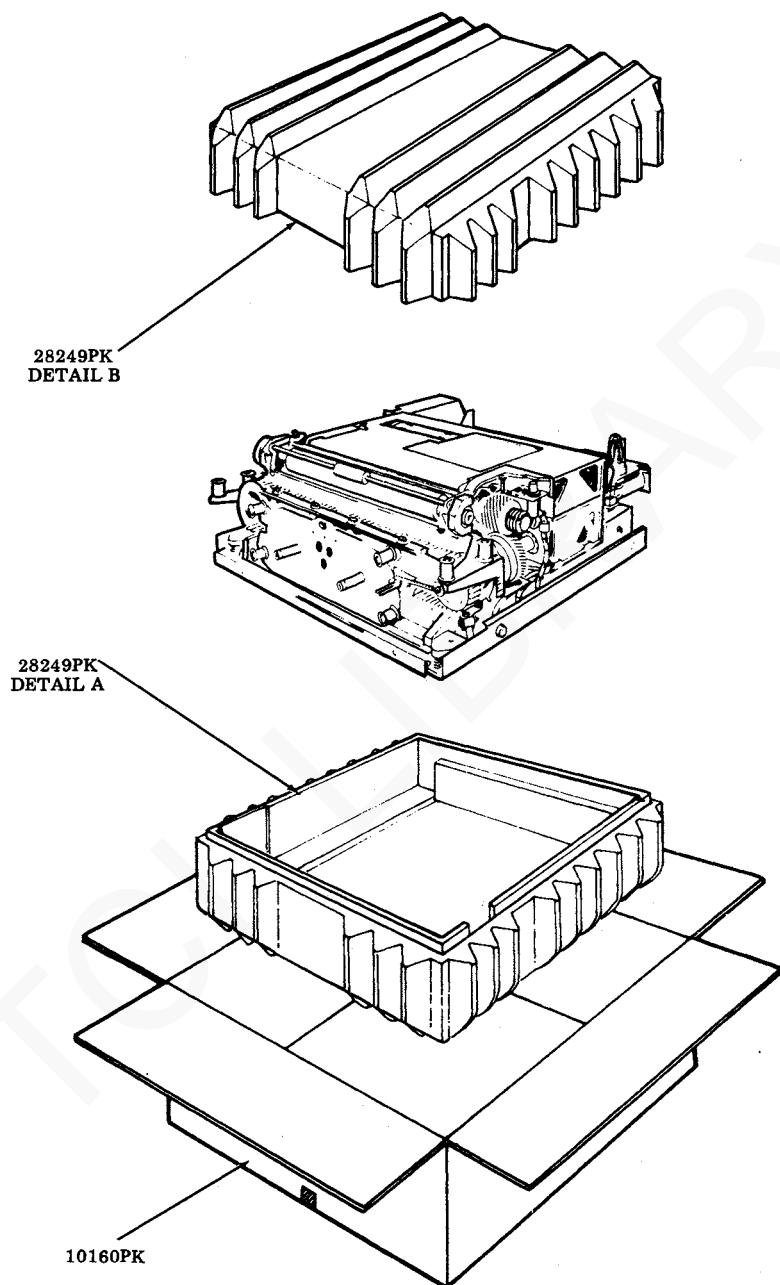

Fig. 14
- Step 5. Place a plastic detail 28249PK Detail A in the container as illustrated in Fig. 14.
- Step 6. Position unit in plastic base (see Fig. 14).
- Step 7. Position a plastic cover 28249PK Detail B over top of unit (see Fig. 14).